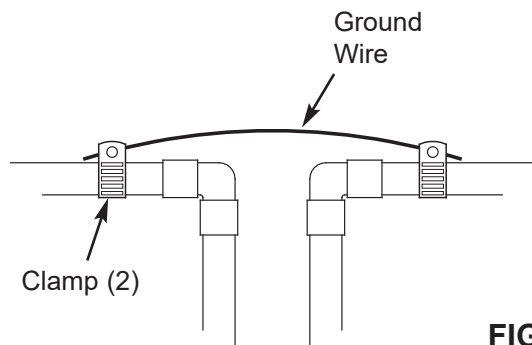

FIG. 13
- a. Install a #4 copper wire across the removed section of main water pipe, securely clamping at both ends (See Figure 13). Parts not included.